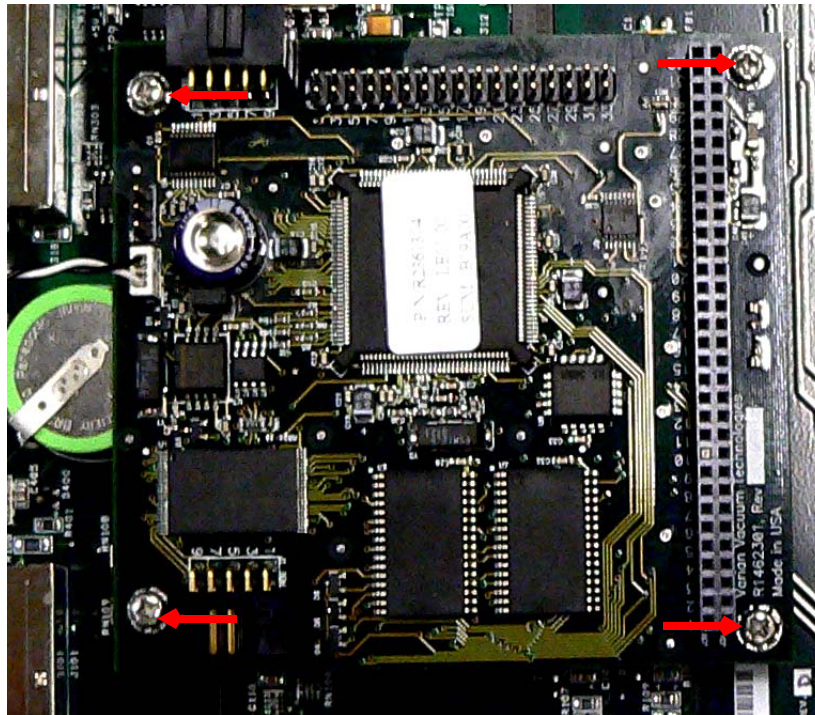

Figure B-28 Mounting Screws
5. Remove the four (4) Philipps head screws and washers (Figure B-28).
10. Reinstall the four (4) Philipps head screws and washers (Figure B-28 on page B-20).